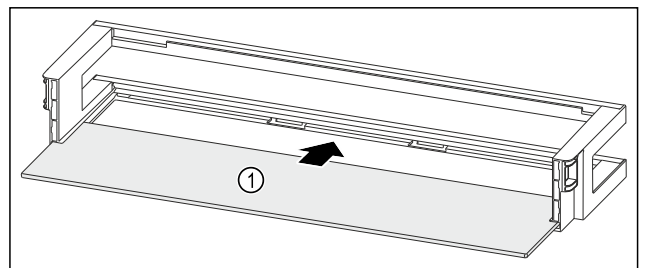

Fig. 148 Door rack with shelf
- ▶ Push the shelf Fig. 148 (1) into the side recesses.